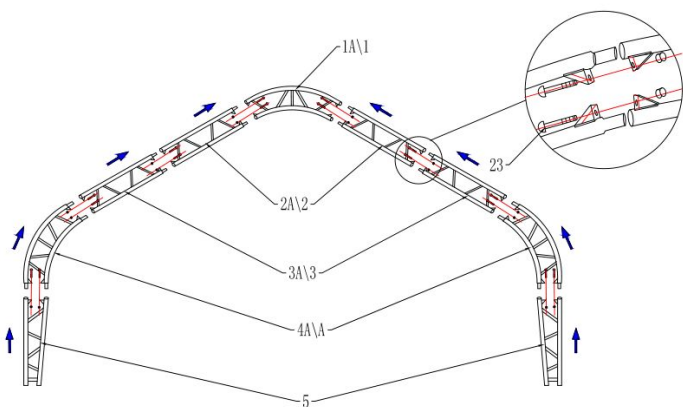
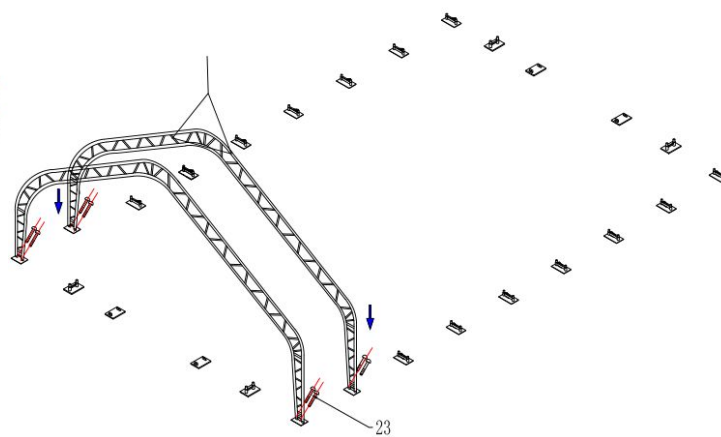

Figure 4
Figure 5
1. Figure 4 shows to connect the Top roof tube (No.1A), Roof curing tube (No.2A), Roof curving tube at both doors (No.3A), Sidewall tube (No.4) and Standing leg (No.5) with Bolt M12x30mm (No.23), then put the arch into tube of the Base flange by hoist, and assemble every group arch by turns (see Figure 5).